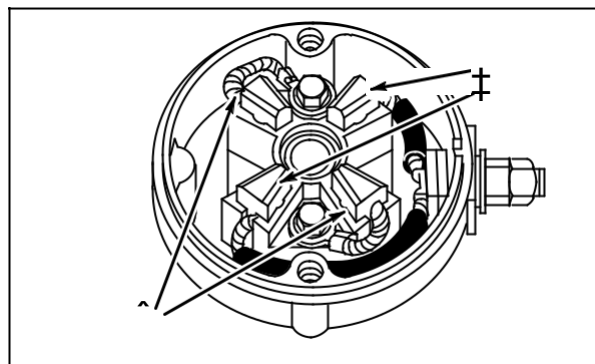

Fig. 24
Install positive (7) and negative (8) brushes with beveled edge UP in position shown, **Fig. 24.**